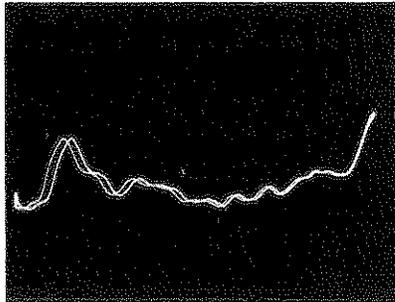

Figure 4-7. Typical Display with No Blanking
- f. Adjust oscilloscope and RF Plug-in POWER LEVEL control for display similar to typical display shown in Figure 4-7.